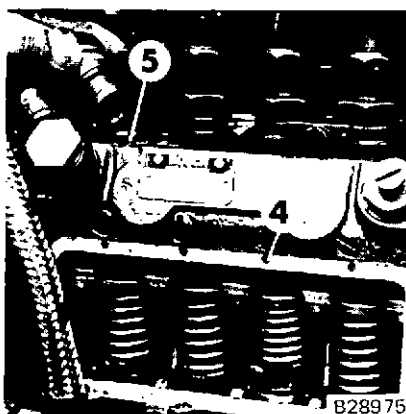
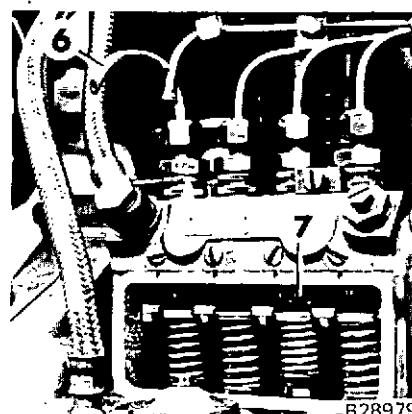

Fig 2
Fig 3
3. The spur gear for driving the injection pump on the camshaft is flanged behind the camshaft gear (Fig. 3).
- Zero marking of the injection timing device 4 or of the injection pump gear with the 0-0 mark on the drive gear 3 on the camshaft (Fig.3)
7. Remove cover 4 from injection pump, delivery valve 5 (Fig. 2) and apply testing tube 6 (Fig. 3).
8. Set control lag 7 to center position, ensuring that the injection timing device is closed (section 6.5, Fig. 3).